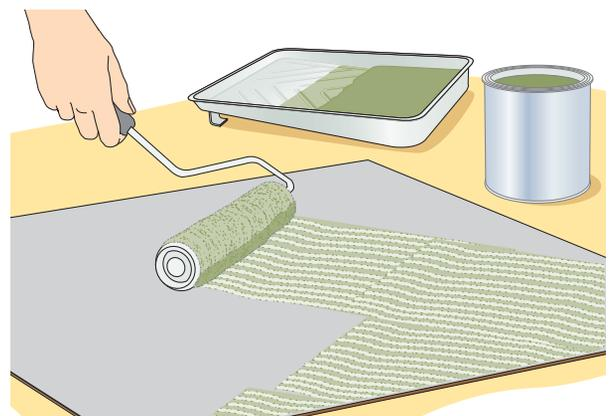

Figure 27-29 Spreading Adhesive Even Coverage Spreading contact adhesive with a roller.
- Stir the adhesive thoroughly from the bottom of the can. Pour a small amount onto the back of the laminate. Spread the adhesive evenly, using a roller or a brush, as shown in Figure 27-29. A brush is recommended when applying adhesive to vertical surfaces or edges, or whenever the use of a roller is impractical. If you are using a brush, apply two coats to ensure proper coverage. Be sure to allow the adhesive adequate drying time between coats.